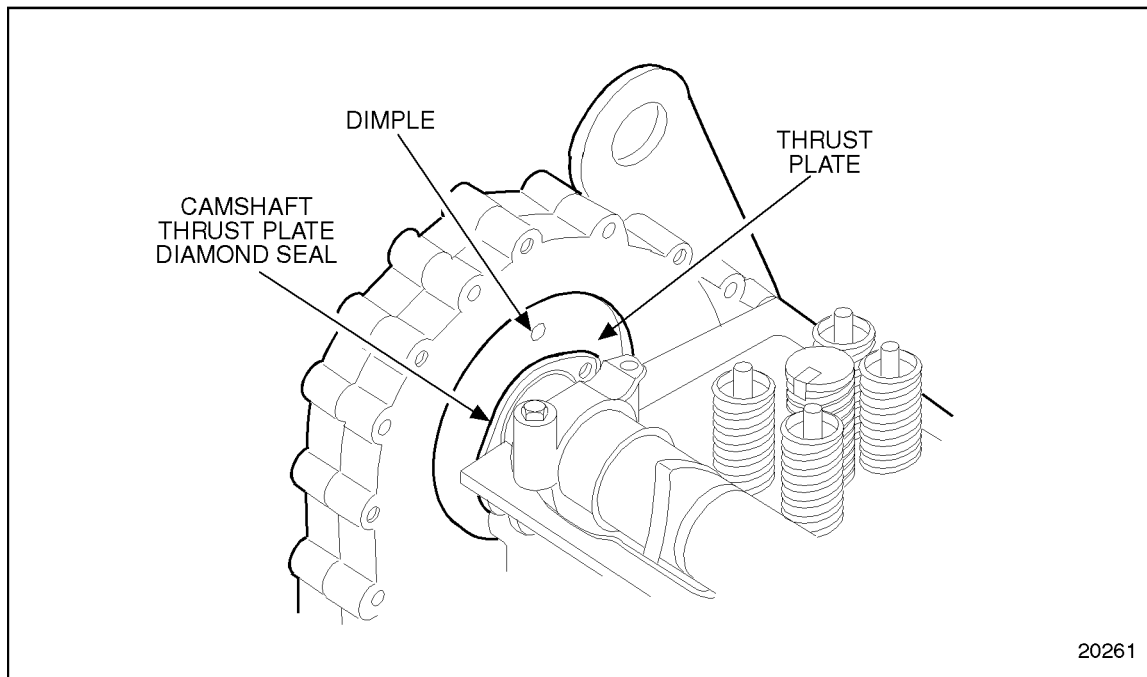

Figure 1-354 Camshaft Thrust Plate Clearance
12. Continue turning the puller screw to pull the camshaft drive gear hub and thrust plate forward approximately 6-7 mm (1/4 in.) until the thrust plate seal is clear of the camshaft front bearing cap and cylinder head. See Figure 1-354.